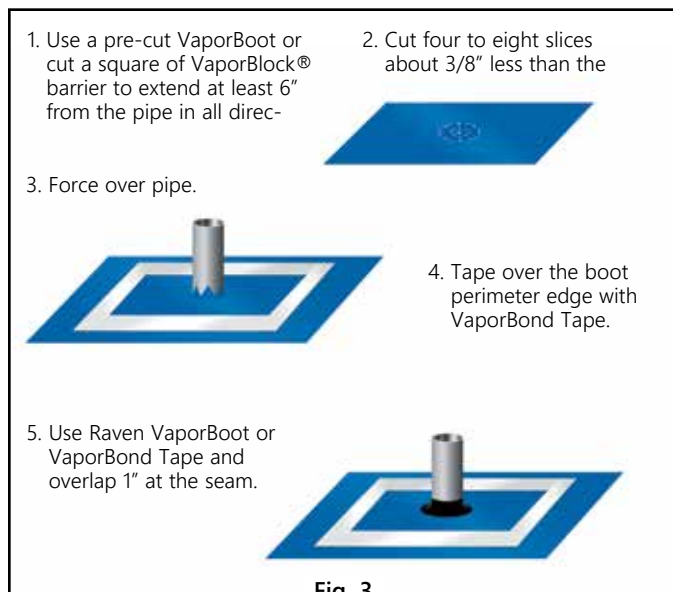

Fig. 3
- 1.4. Seal around all plumbing, conduit, support columns or other penetrations that come through the VaporBlock® membrane. The Raven VaporBoot Pipe Boot System is the recommended sealing method. (Includes 25 pre-cut VaporBlock® pipe boots along with 1 roll of VaporBoot Tape). (Fig. 3 & 4)
Pipe boots may also be fabricated from excess VaporBlock® membrane (Fig. 3 & 4) and sealed with VaporBoot Tape or VaporBond Tape (sold separately).
To fabricate pipe boots from VaporBlock® excess material (see Fig. 3 & 4 for A-E):
- E) Complete the process by taping over the boot perimeter edge with VaporBond Tape to create a monolithic membrane between the surface of the slab and moisture sources below and at the slab perimeter. (Fig. 3 & 4)